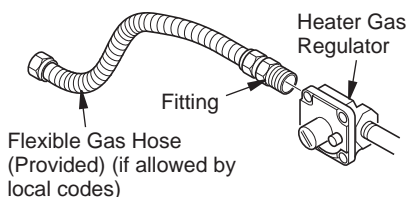
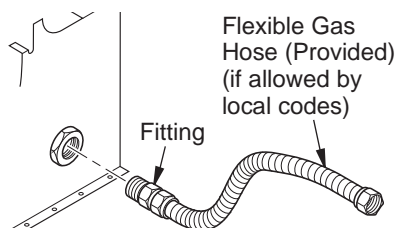

Figure 11 - Attaching Flexible Gas Hose to Heater Gas Regulator (Variable Manually-Controlled Models Only)
Figure 12 - Attaching Flexible Gas Hose to Heater (Remote-Ready Models Only)
1. Apply pipe joint sealant lightly to male threads of gas fitting (provided). For Variable Manually-Controlled Models, connect approved flexible gas hose to gas regulator of heater (see Figure 11). For Remote-Ready models connect approved flexible gas hose to gas control fitting in heater (see Figure 12).